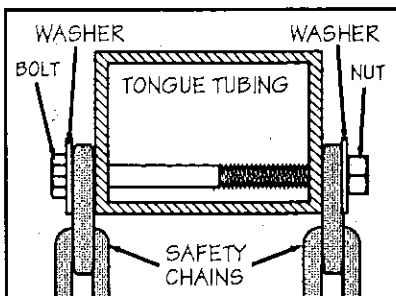

FIG. 10 - SAFETY CHAINS ON TRAILER TONGUE.
STEP 6: Fasten a safety chain to each side of the tongue using the 1/4 x 3 1/2 inch bolt, two 5/16 inch SAE washers, and a 1/4 inch Nylok ® nut. Secure the chains' top link along the bolt between a washer and the tongue tubing. (Refer to Figure 10.) The mounting hole for the safety chains is located behind the hitch receiver. Two connector are provided to attach the safety chains to your vehicle.